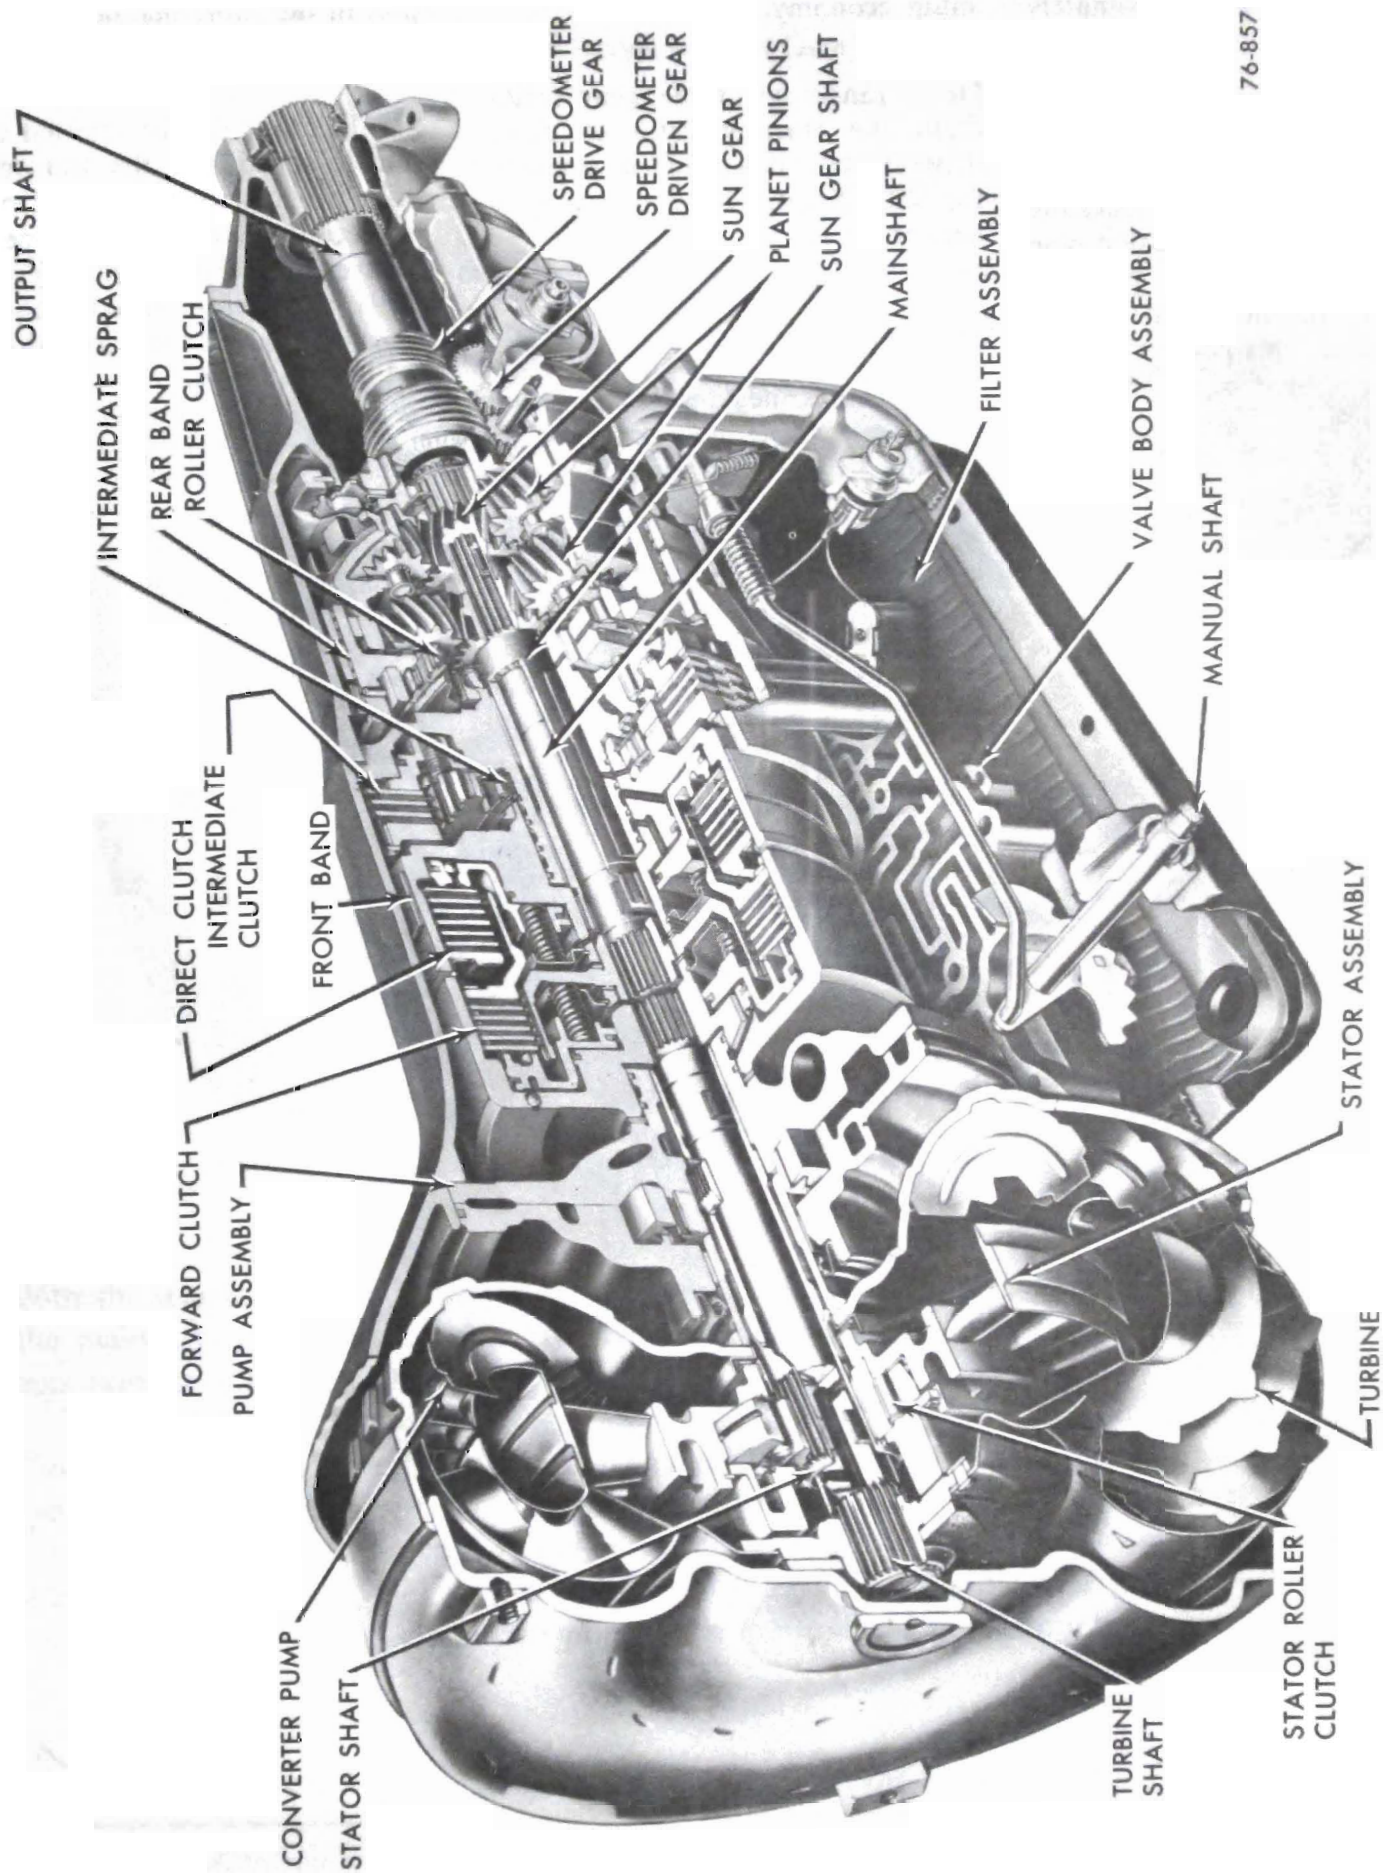

Figure 76-202 · Cross Section of Transmission
The Turbo Hydra-matic 400 Automatic Transmission, see Figure 76-202, is a fully automatic unit consisting primarily of a 3-element hydraulic torque converter and a compound planetary gear set. Three multiple-disc clutches, one (1) one way roller clutch, one (1) one way sprag clutch and two bands provide the friction elements required to obtain the desired function of the compound planetary gear set.